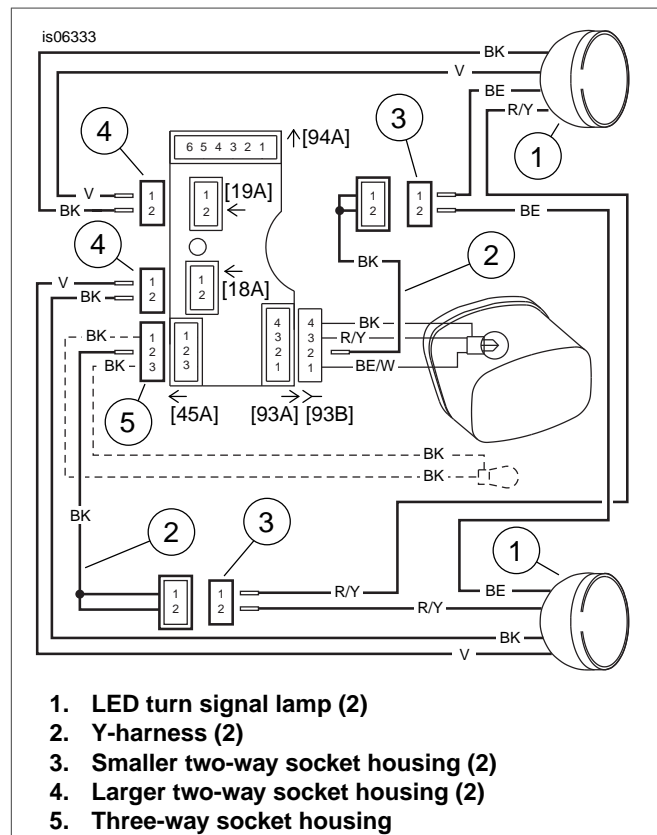
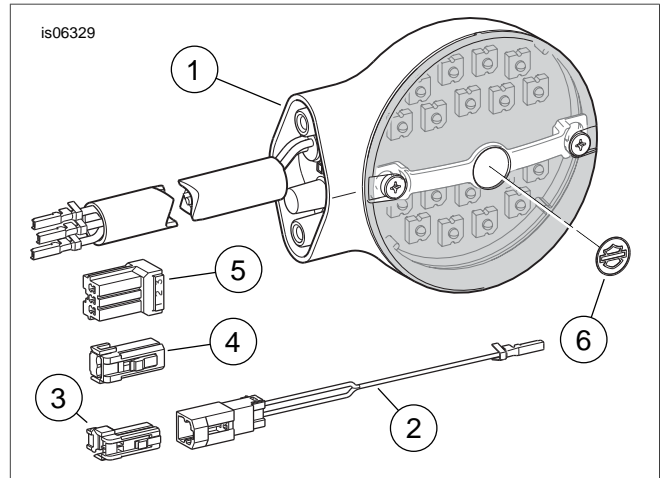

Figure 2. Wiring Diagram, Flat Lens LED Rear Turn Signal Lamp Kits
Figure 3. Service Parts, Flat Lens LED Rear Turn Signal Lamp Kits
See Figure 3, Table 1 and Table 2.
3. Route the turn signal lamp wires and conduit through the channel in the turn signal mounting bar, then feed through the fender holes (3) just below the tail lamp base.
5. Feed the wiring through the openings (4) in the tail lamp base.
6. See Figure 2 and Figure 3. Insert the red/yellow wires and terminals from **both** turn signal lamps (1) into the cavities of one of the **smaller** two-way socket housings (3) from the kit.